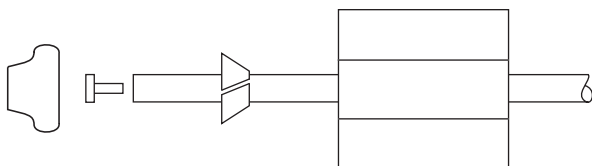

Figure 8
**NOTE:** Once the tubing has been pushed into the nut it cannot be pulled out. The nut will need to be removed. See Figure 8 for correct assembly.